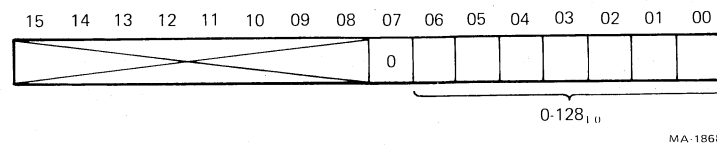

Figure 4-28 RX2WC Format (RX211/RXV21)
4.3.2.5 RX2WC – RX Word Count Register (Figure 4-28) – For a double density sector the maximum word count is 128_{10} . For a single density sector the maximum word count is 64_{10} . If a word count is beyond the limit for the density indicated, the control asserts Word Count Overflow (bit 10 of RX2ES). This is a write-only register. The actual word count and not the 2's complement of the word count is loaded into the register.